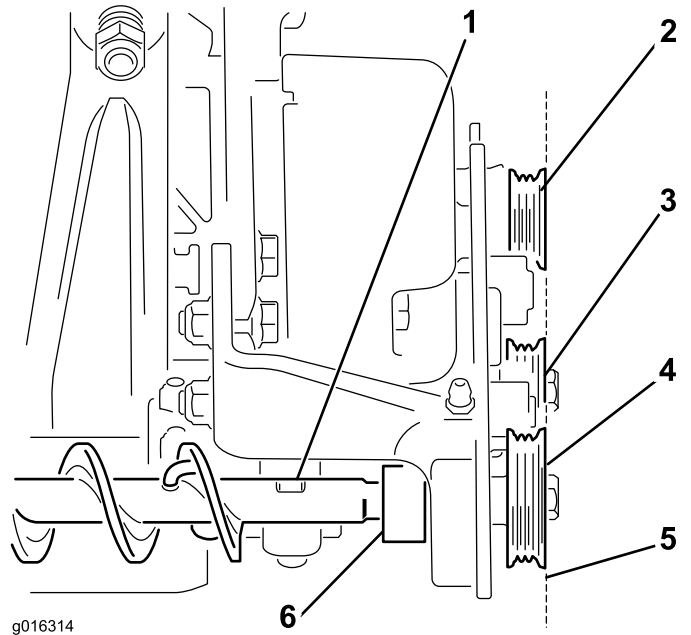

Figure 9
- A. Align the driven pulley to the idler and drive pulleys by moving the roller brush back and forth between the left and right supports; see Figure 9.